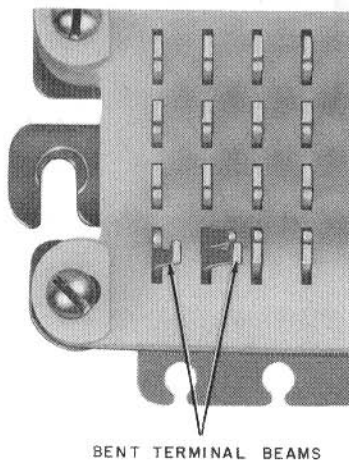

Fig. 19—Misaligned Terminal Beams
**7.02** Terminals which have been bent or misaligned, as shown in Fig. 19, may be corrected by using long-noise pliers (Fig. 20). The bent beam should be moved until it is aligned with its mate or with other terminals of the same row. Care should be taken not to move beams or terminals in a direction which would spring or open the contact surfaces between the two beams.